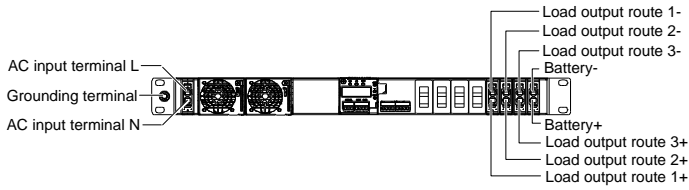

Figure 2-3 Illustration of connection terminal
Connect one end of the earth cable to the grounding terminal (see Figure 2-3), and solder the other end to the grounding metal base outside the power system.
1. The routing method of the AC input cables is the same as that of the earth cables. Connect the live line (L) and neutral line (N) of the AC input cables respectively to the lower terminals of the power system AC input terminal L and AC input terminal N, as shown in Figure 2-3.
The power system can be connected with three route of loads respectively controlled by three MCBs, as shown in Figure 2-3. Connect the negative load cable to the corresponding load '-' and then connect the positive load cable to the corresponding load '+' (see Figure 2-3).
The power system can be accessed in one group of batteries controlled by a battery MCB, as shown in Figure 2-3. During connection, connect the negative battery cable to the battery terminal '-' and then connect the positive battery cable to the battery terminal '+' (see Figure 2-3).